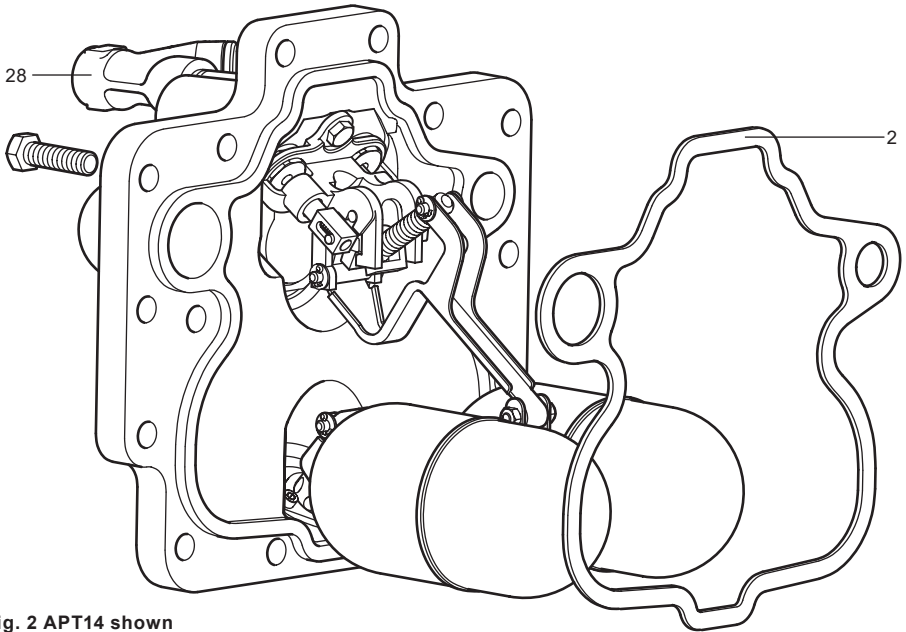

Fig. 2 APT14 shown
3. Carefully fit a new gasket (item 2) into the existing body (See Figure 2).
6. Carefully reconnect the motive steam supply and the exhaust lines to the connections marked (S) and (E). The APT14, APT14HC or APT14SHC is now ready to recommission.
7. Make sure that the Spirax Sarco motive supply strainer (with 100 mesh screen) is reinstated to the motive supply connection (item 28, Figure 2).